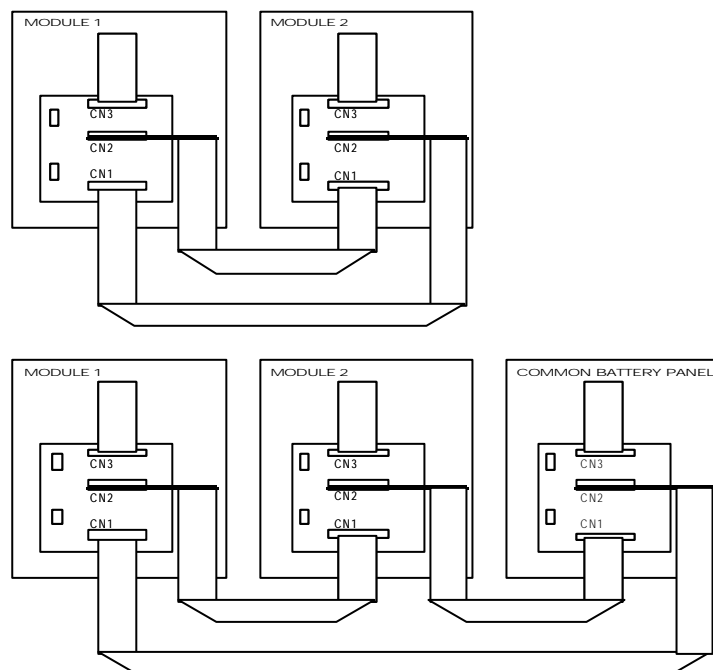

Figure 10: Connecting the parallel interface cables.
9. Connect one-plus-one parallel control ribbon cables between the Parallel Interface boards of both modules. Connect one ribbon cable between sockets CN1 on one board and CN2 on the other, and connect the second ribbon cable between the remaining CN1 and CN2 sockets. Refer figure 10.